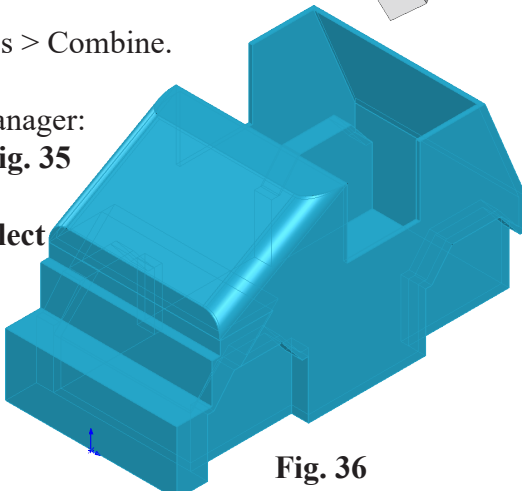

Fig. 36
**drag a selection** to select **both bodies**, Fig. 36